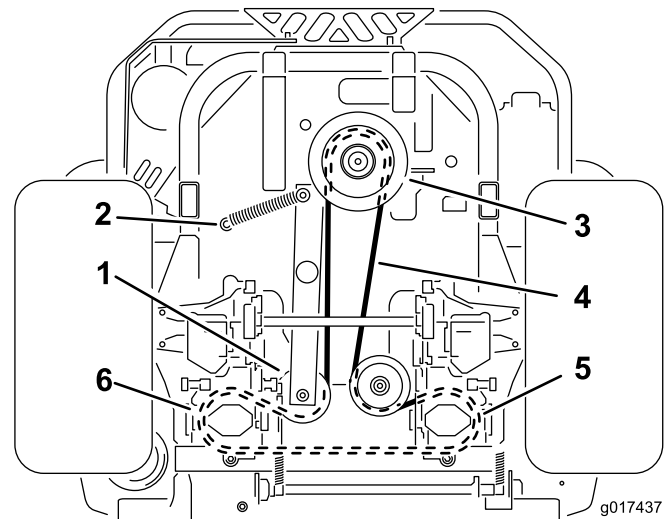

Figure 64
4. Raise the machine and support it with jack stands (Figure 64).
6. Remove the idler spring from the post (Figure 64).